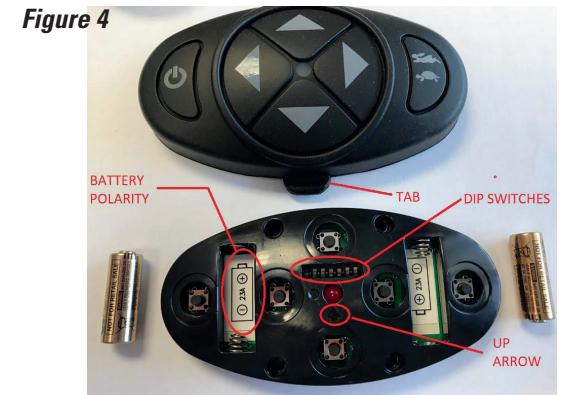

Figure 4 - Wireless Dash Remote
2. Mount the wireless dash remote to smooth flat surface with the four supplied mounting screws. Note the arrow on the plastic base (near LED) must be pointing up see Figure 4.